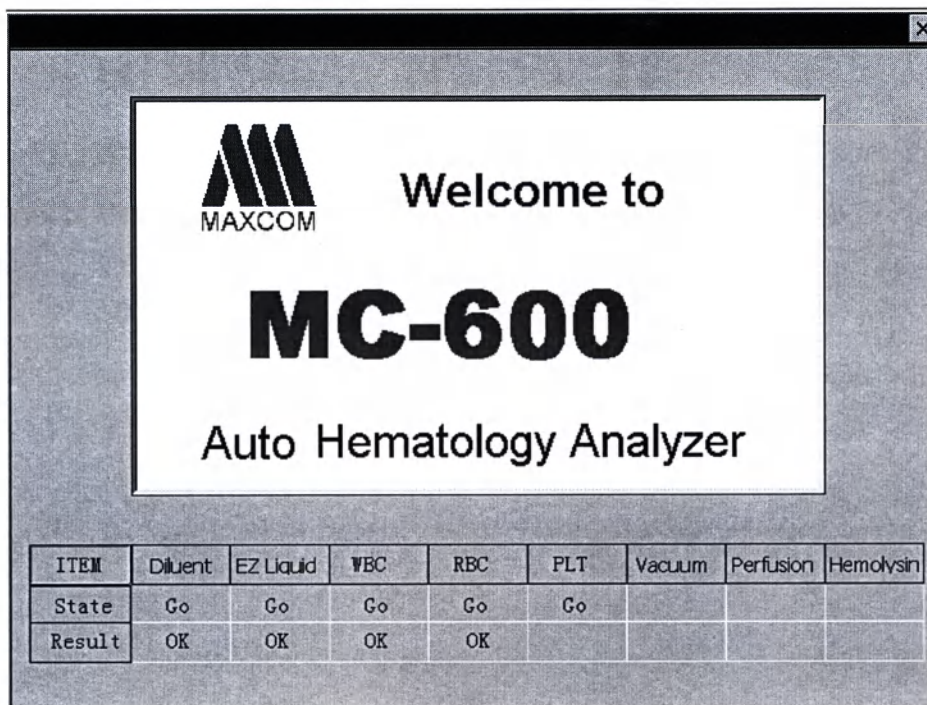

Figure 3-1
2. About one minute after starting up, the instrument automatically performs initialization program (Figure 3-1).